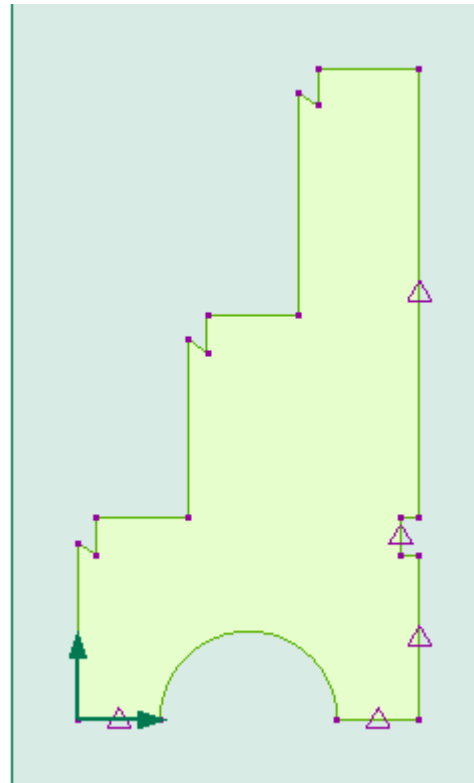

Figure 3. Valid Side Profile
6. Create a valid profile of the side of the step stool. A valid profile should look like figure 3. See page 2 for dimensions. Notice that the bottom and right side lines have a Fixed constraint (triangle). (Dimensions have been removed for clarity)